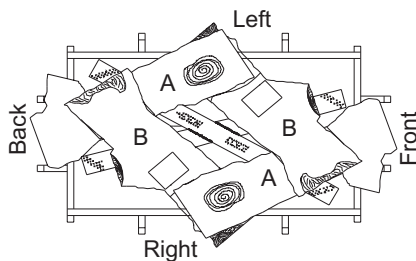

Figure 46 - Installing Logs "B" (Top View)
7. Place logs "B" as shown in Figure 46, page 24. Lift end of log "A" that will be propped up and place log "B" under it. At the same time, the other side of log "B" is placed over other log "A". Repeat procedure for other log "B". The charred area on these four interlocking logs must be aligned flush with each other. Make sure the logs does not cover any of the burner ports.